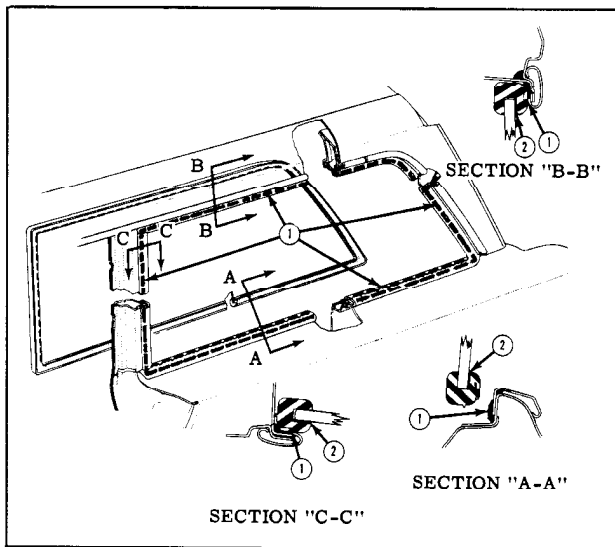

Fig. 15-43 Rear Quarter Window Sealing (Station Wagon)
- To install rear quarter window, first clean off all old sealer from rubber channel and body opening. Apply a bead of medium-bodied sealer on the wall of window opening rabbet completely around window opening to effect a seal between body and rubber channel. (See 1 in Fig. 15-43)
- Position glass and rubber channel assembly into window opening and install retainers loosely. Using a pressure type applicator apply weatherstrip adhesive (black) between rubber channel and outside surface of glass. (See 2 in Fig. 15-43)